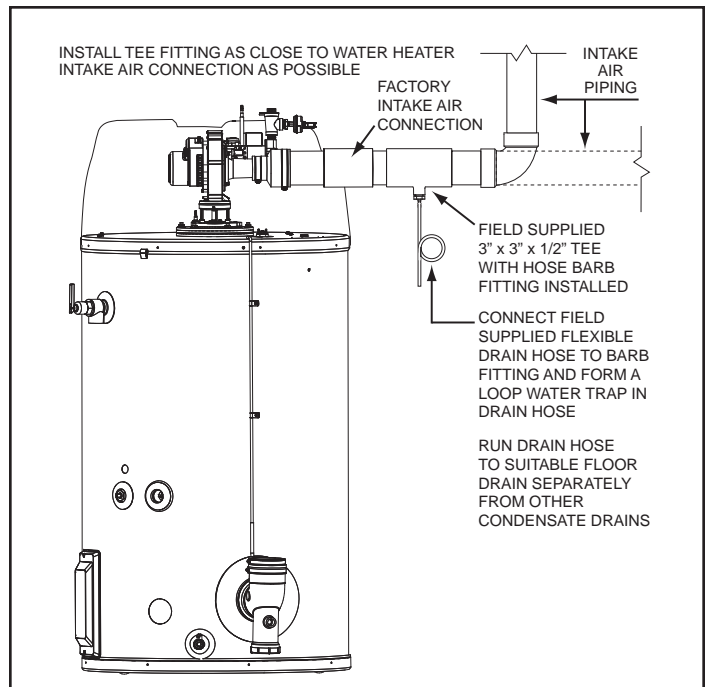

**Figure 18. Intake Air Screen**
13. Ensure the Intake Air Screen on the Intake Air Connection to the water heater is removed before connecting the intake air pipe to the water heater. See *Figure 18* (page 25).